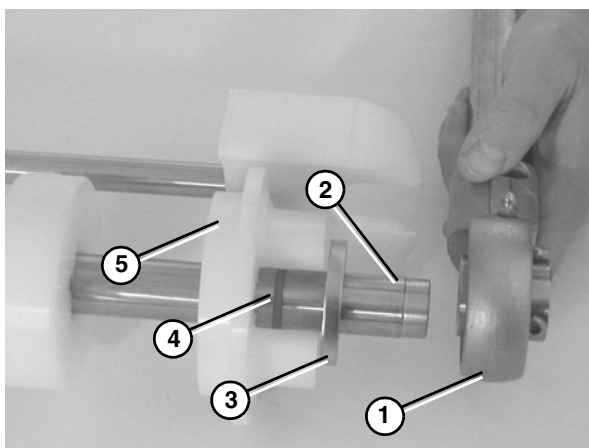

Figure 72
3. Attach flanged pucks (**Figure 72, item 5**), the O-rings (**Figure 72, item 4**), the washers (**Figure 72, item 3**), and the bearing shaft assemblies (**Figure 72, item 1**) onto the idler shaft (**Figure 72, item 2**).